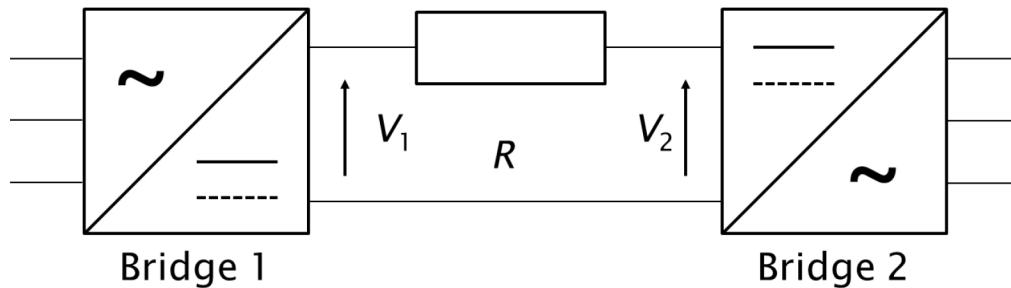

Figure Q1
Figure Q1 is a diagram of a DC power transmission system between two three-phase AC systems.
- (a) Calculate the voltages V_1 and V_2 for the transmission circuit shown in Figure Q1.